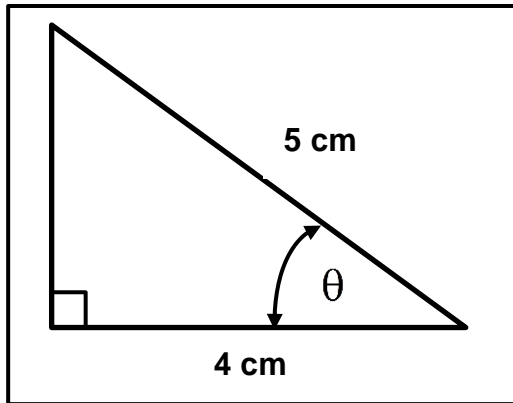

FIGURE 4.14
- (1)
4.14 Calculate the value of θ , as indicated in FIGURE 4.14 below: